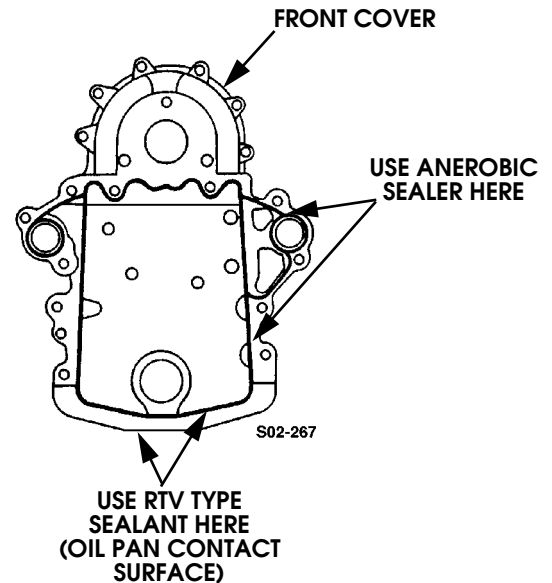

Figure 2-29: Front Cover Sealer Application Diagram
- Refer to sealer application diagram (Figure 2-29).